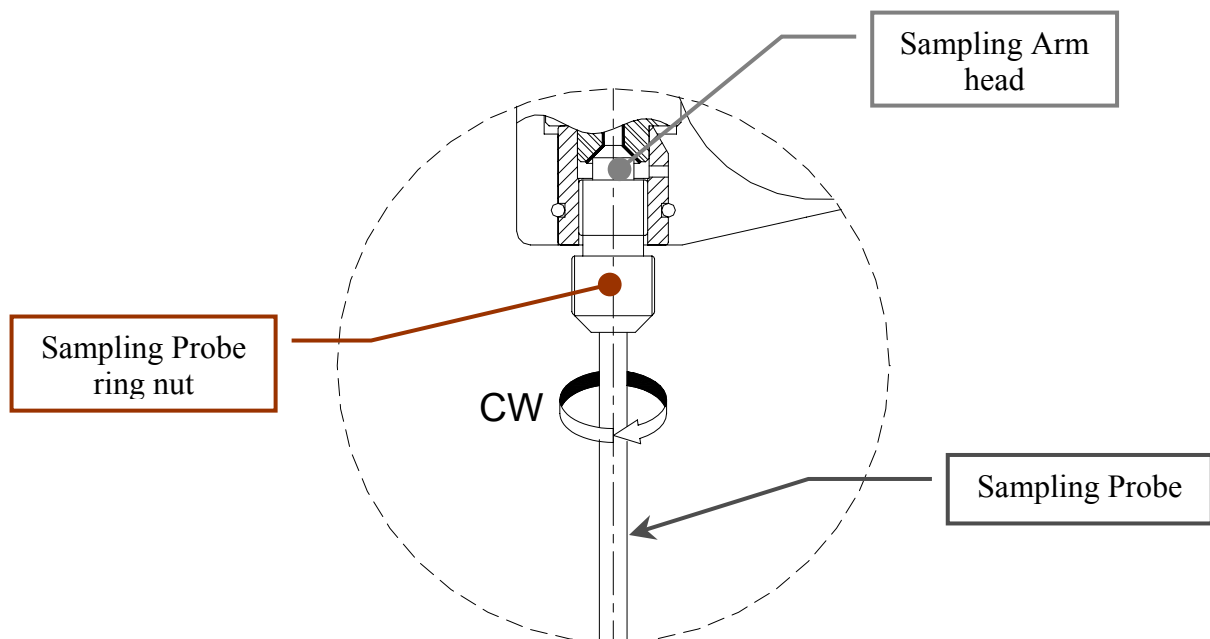

Fig. 8 - Removing of the Sampling Probe
- c. remove the Sampling Probe from its housing by unscrewing (clockwise) its ring nut (Fig. 8).
1. Remove the Sampling Probe from its housing unscrewing (clockwise) its ring nut (Fig. 8).
1. Remove the Sampling Probe from its housing by unscrewing (clockwise) its ring nut (Fig. 8).